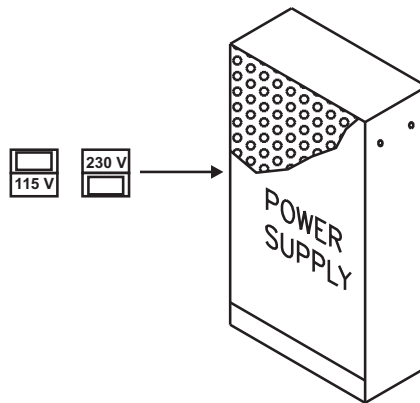

Figure 2-5. Primary Power Selection Switch
4. Ensure that the power supply unit AC-input-voltage selector switch is set to the proper position for either 120 Vac or 220/240 Vac. See Figure 2-5.